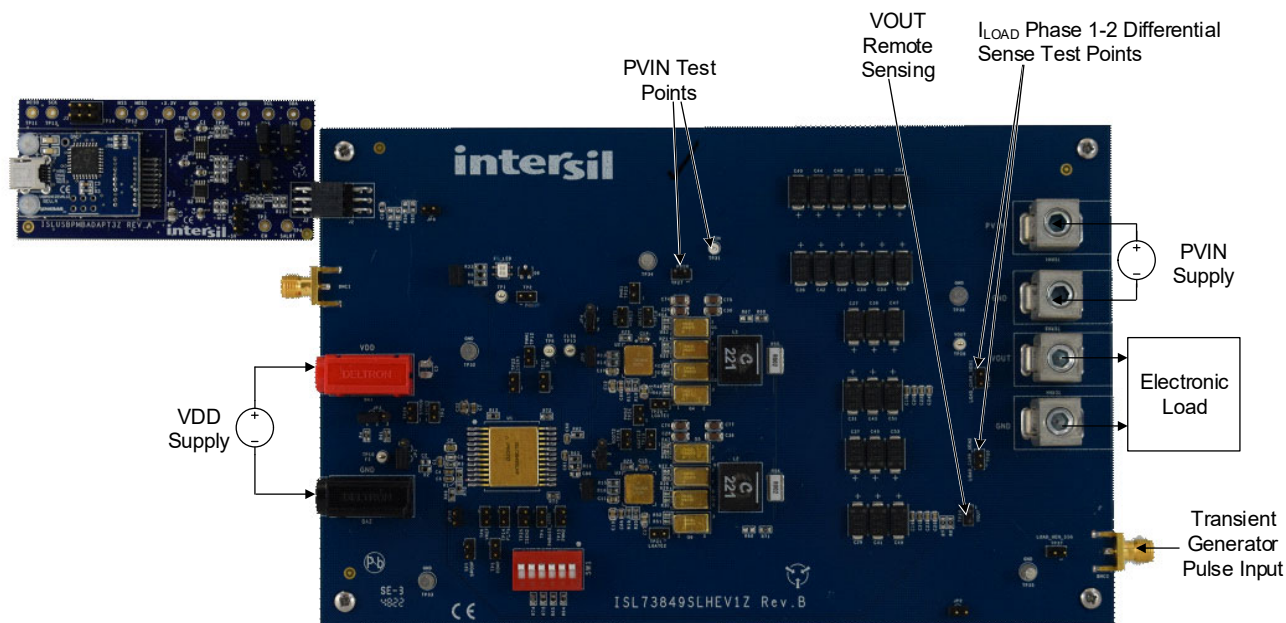

Figure 3. ISL73849SLHEV1Z Board Setup
- Connect the ISLUSBPMBADAPT3ZA to the J2 connector as shown in Figure 3.
- Apply a 4.5V to 15V voltage to PVIN metal banana plug connectors as shown in Figure 3.
- Apply a 4.75V to 13.2V voltage to the VDD banana connectors as shown in Figure 3.
- If required, a resistor or electronic load can be connected to the VOUT metal banana plug connectors as shown in Figure 3. For output voltage measurements, use the TP29 test point.